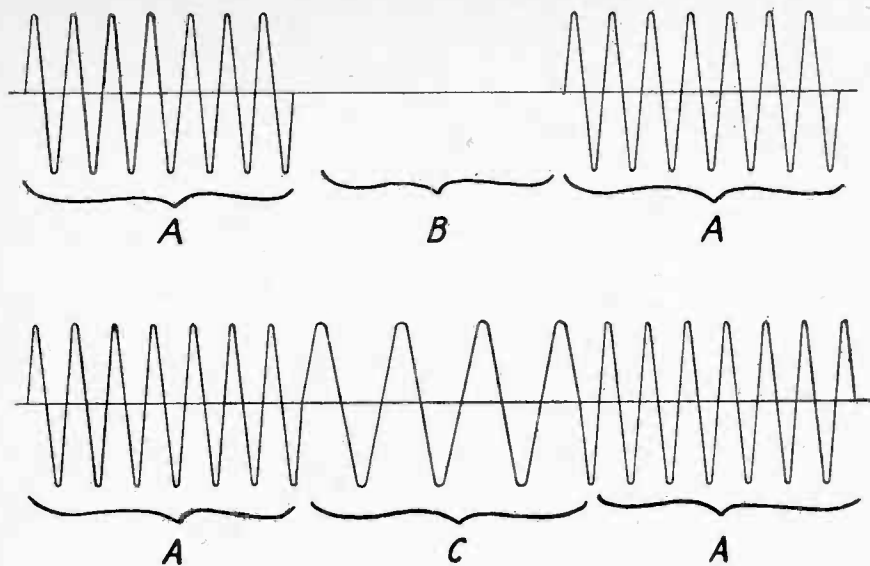

FIG. III-1
The intermittent oscillation involved when sending by means of starts and stops is illustrated in Fig. III-1. A represents a dot, B a space and A another dot. By lengthening the dots to contain twice as many waves, dashes would result. In the lower part of the figure is shown another method of forming the dots and dashes. In this case A still stands for a dot, while C stands for a space. The only difference between the upper and lower figures is that in the space B no wave is going out while in C a wave is transmitted but it has a different frequency from that of a dot or a dash. The variation in frequency is called frequency modulation.
A simple oscillating circuit in which the key is placed in series with the grid leak. When the key is depressed an unmodulated wave as (A), Fig. 2 results. The key is used for making dots and dashes in the upper part of Fig. III-1.